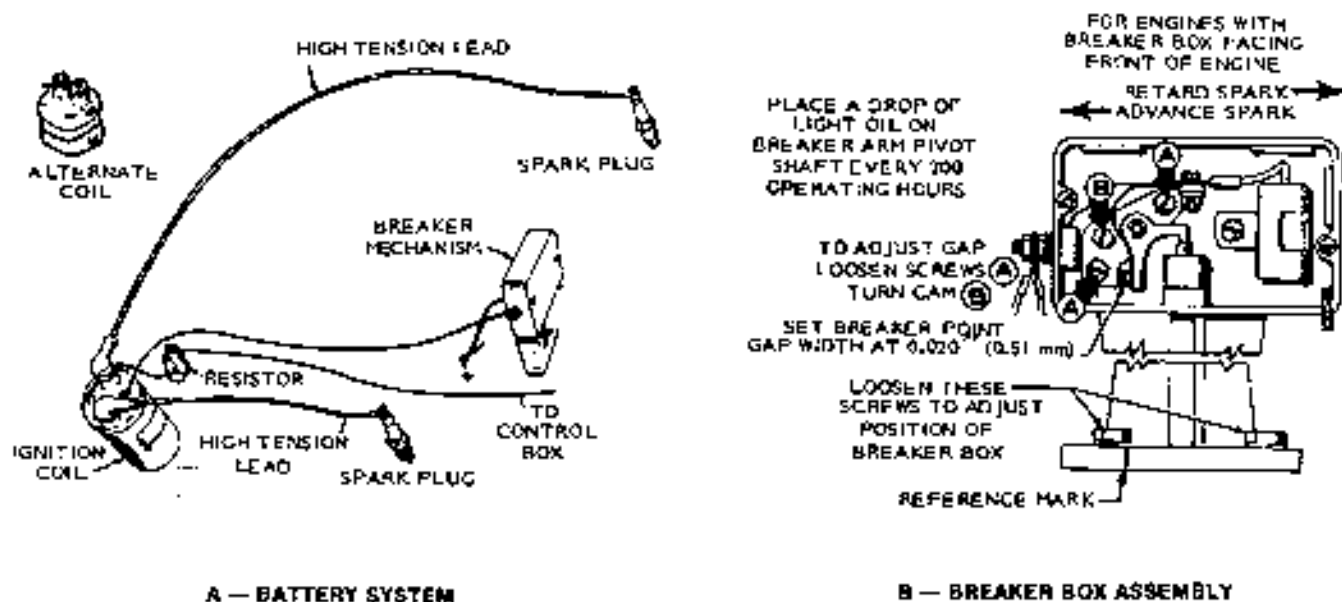

FIGURE 10-18. BATTERY IGNITION SYSTEM — WITHOUT SPARK ADVANCE MECHANISM
6. Tighten breaker box mounting screws securely after making an adjustment (Figure 10-18).